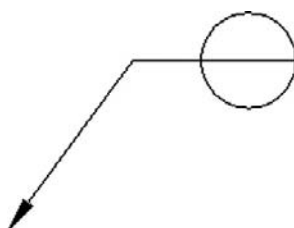

FIGURE 6.20
- Step 3.** Click again to place the multileader and bubble. You see something like Figure 6.20.